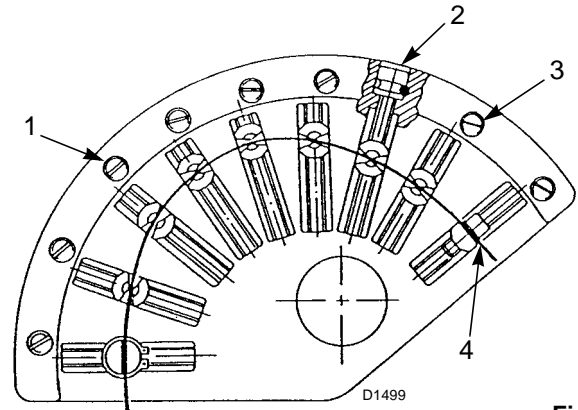

Fig. 35
The starting profile of cam 1)(Fig. 35) must be progressively adjusted by turning the screws 2)(Fig. 35).
For better adjustment repeatability, take care to stop the rotation of the cam unit when the upper bearing that slides on the profile 4)(Fig. 35) is aligned with one of the adjustment screws 2).
Key (Fig. 35)
turn the adjustment screws 2)(Fig. 35) after having loosened screws 3).
- Calibrate the air delivery by adjusting the variable profile cam with the screws 2)(Fig. 35).
- With the optimal adjustment achieved, remember to lock the adjustment screws of the cam profiles by means of screws 3)(Fig. 35).